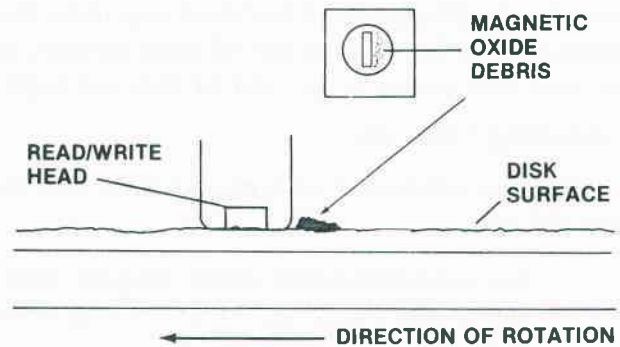

Fig. 5-7. Oxides are wiped off the disk surface and build up on the head surface.
1. Heads need cleaning to remove the oxides from your disks that build up on the leading edge of the head (the side facing the direction of disk rotation), as shown in Fig. 5-7.